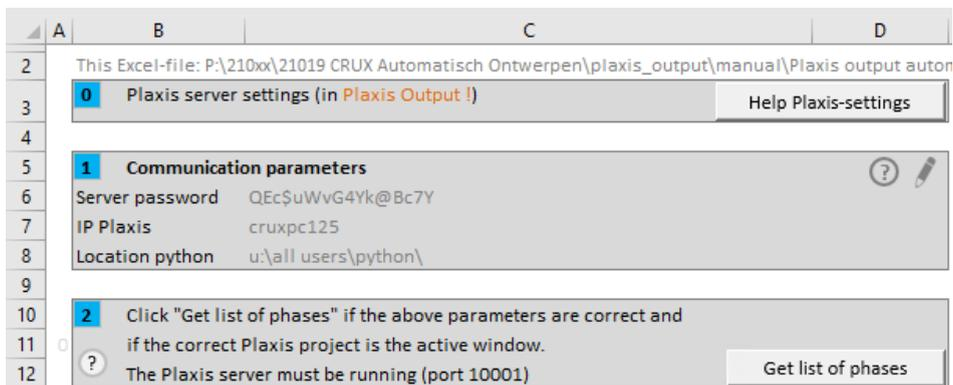

Figure 1 Worksheet
- C. In the Excel workbook open the worksheet with the blue numbers, Figure 1. This worksheet can be copied in the same workbook in order to collect results of another element (for instance plate-element, beam-element, soil cross section). Each worksheet can contain results of one element (or some elements belonging to the same structure, see also 6.4).